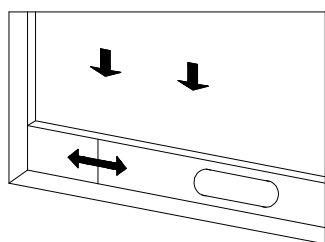
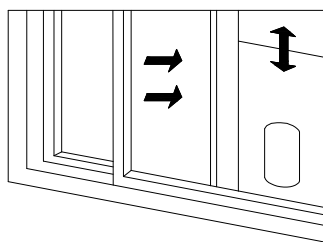

Figure 2
Figure 3
1)Half open the window , and mount the window sealing plate assembly to the window (as shown in Fig.2 and Fig.3).Components can be placed in horizontal and vertical direction.